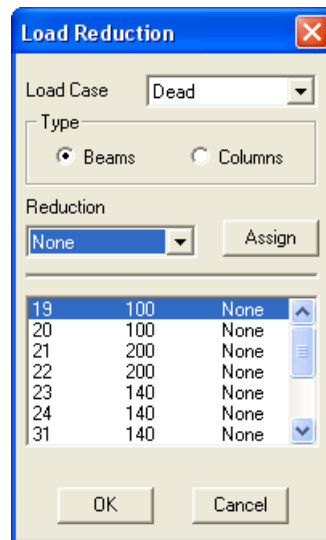

Figure 5-24 Load Reduction dialog box
- From the **Options** menu, choose **Load Reduction**. This command will be available only after inputting panels on the levels and distributing the loads to the attached members. The dialog box of Figure 5-24 appears.